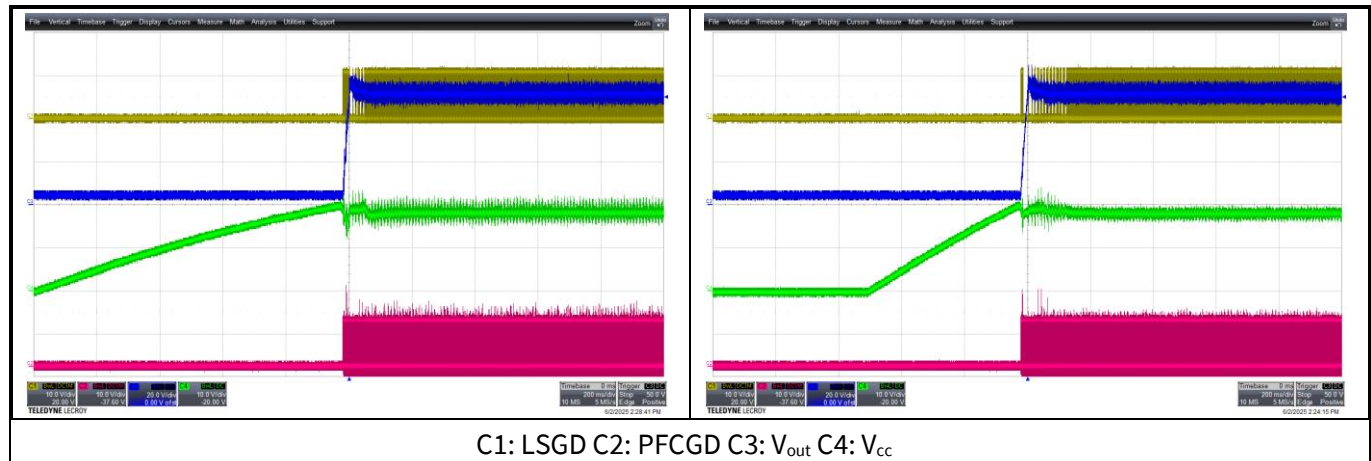
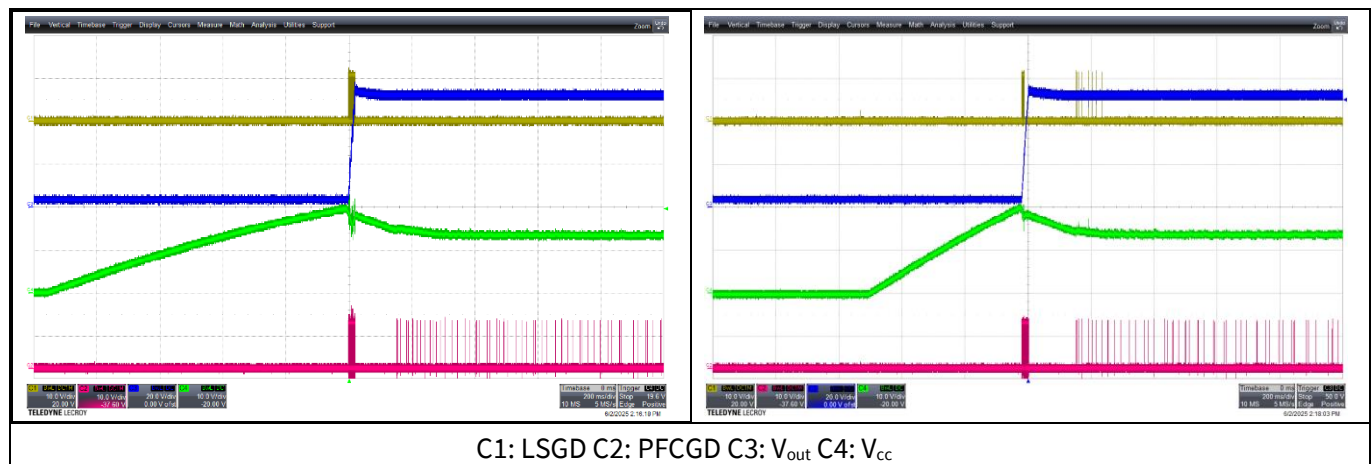

Figure 23 Start-up at full load, 115 V AC input (left) and 230 V AC input (right)
Figure 24 Start-up at no-load, 115 V AC input (left) and 230 V AC input (right)
Start-up behavior was measured at full-load condition and V_{in} 115 V AC and 230 V AC in CC-mode. The HFB operates in continuous resonant mode (CRM) – see Figure 23. After start-up at no-load condition, the HFB remains in burst mode (BM) mode, as shown in Figure 24.